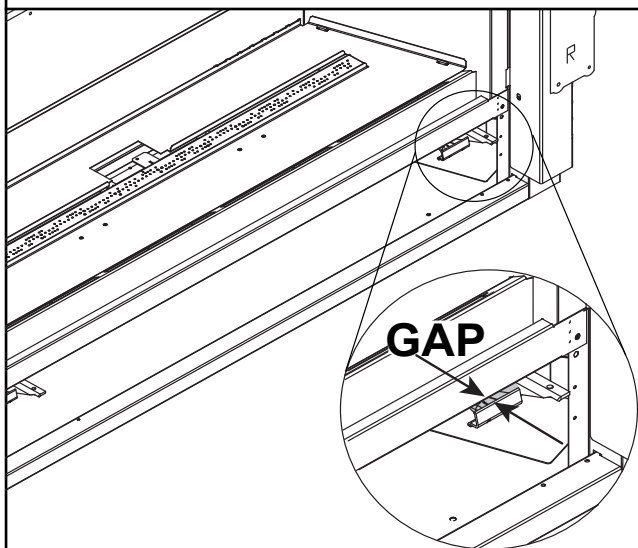

Figure 4.1 Fixed Glass Assembly
2. The glass assembly has two upper spring latches and two lower spring latches. See Figure 4.1. Locate the two spring latches that are on the upper left and right of the fireplace.
**Note:** Observe the presence of a space or gap between the glass latch and the front of the appliance where the bottom of the glass assembly is positioned. This gap is designed for positive placement when replacing the glass assembly. See Figure 4.1.
The bottom glass latches have been designed to create a small gap between the glass clip and the face of the appliance. See Figure 4.1.